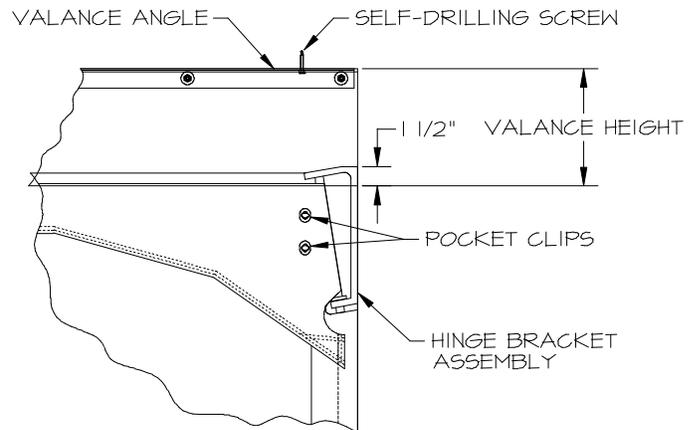

FIG. 4
c. Hallway/Wide Lintel mounting (Figure 4).
- b. Fold long fabric flap around hinge and tuck inside pocket. Line up holes (Figure 4).